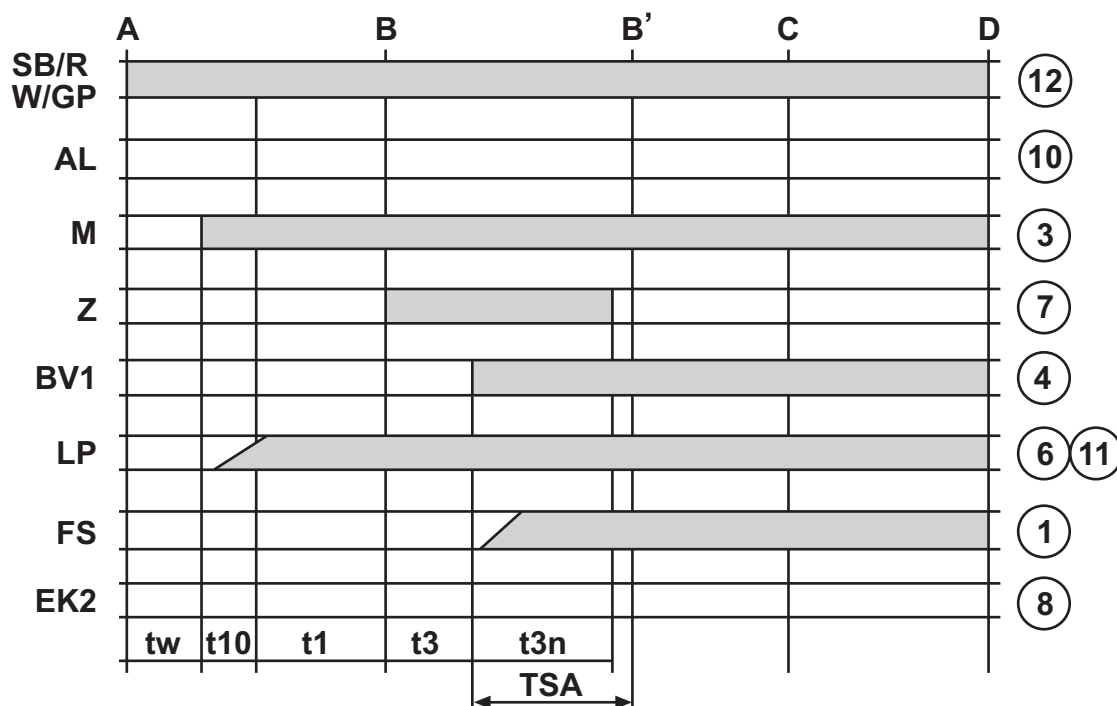

fig. 13
- Operation starts according to the diagram of Fig. 13.